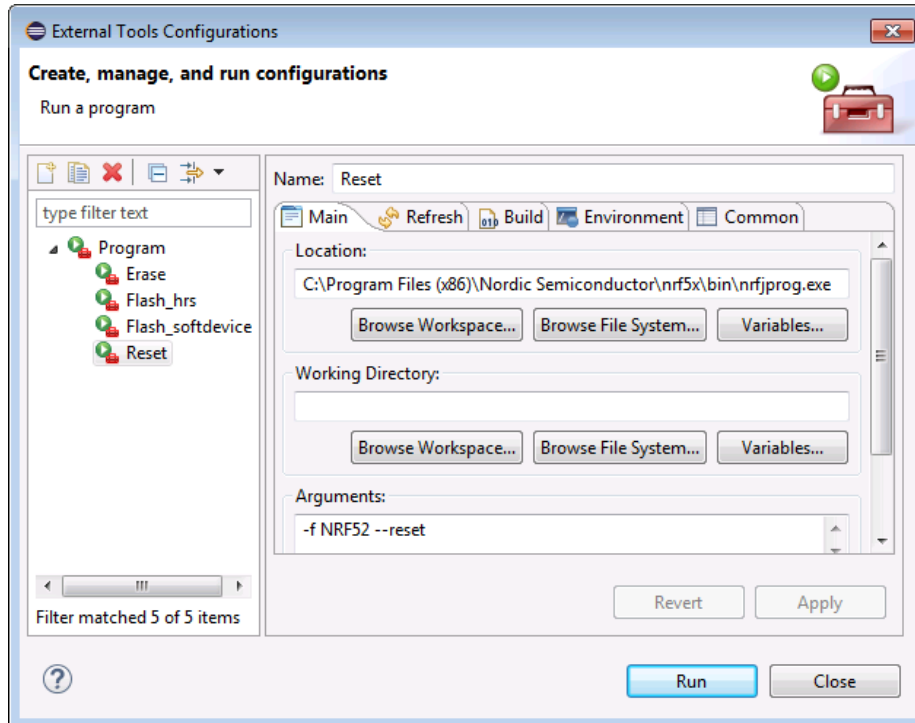

Figure 27: Adding Reset to External Tools Configurations
6. Click **Apply** and then click **Run** (Figure 27).